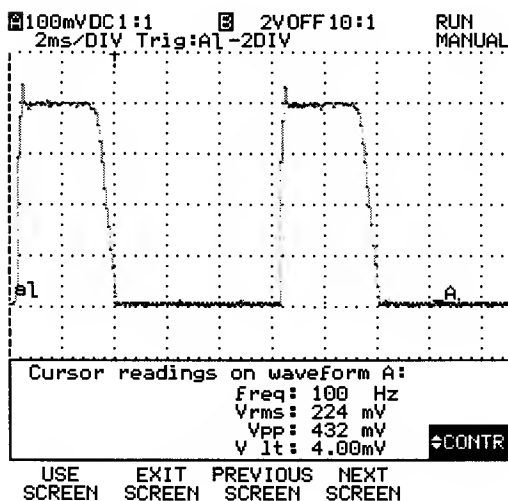

Figure1 Waveform  $t=10\text{ms}$ ,  $U=400\text{mV}$
- Adjust potentiometer P6001 until the maximum of the signal equals to 400mV. see figure 1 for waveform with the Sonopuls 464 unit switched off,